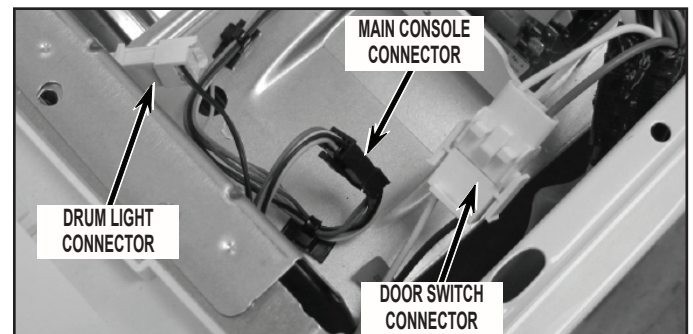

FIGURE 4
5. Disconnect drum light and main console connectors as shown in *Figure 4* located on top right front side of dryer. Lift up on console and tilt assembly forward to remove console.
7. Disconnect door switch connector located on top right front side of dryer. See *Figure 4*.